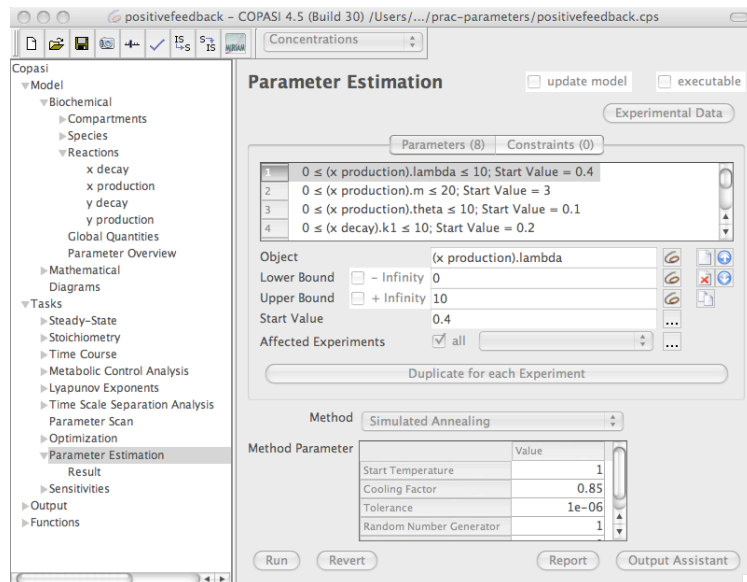

Figure 1: The COPASI Parameter estimation panel.
1. Click “Tasks”, then “Parameter Estimation”. This should bring up the parameter estimation window, as illustrated in Figure 1.